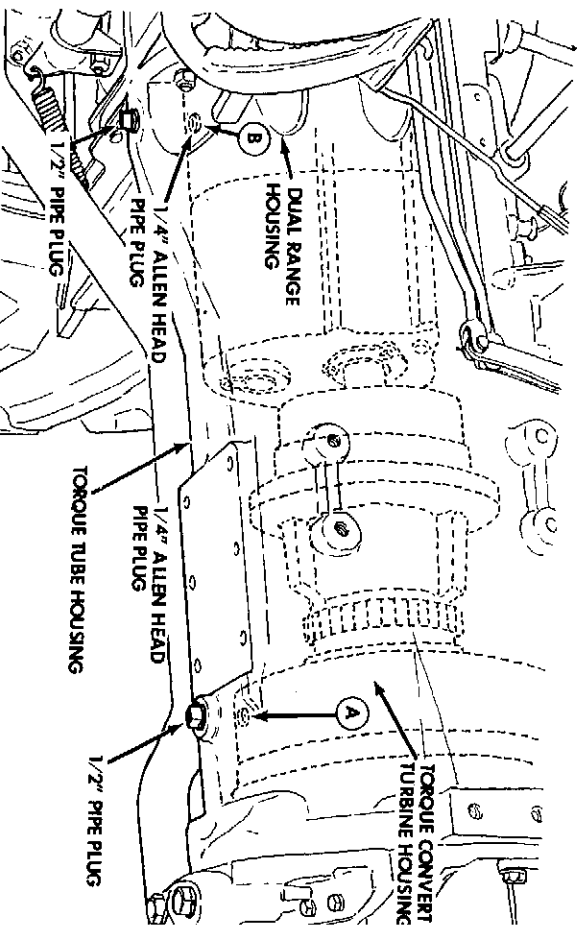

Figure 16
To drain the torque tube and converter unit remove the two 1/2" pipe plugs, see Figure 16 and allow the oil to drain for several minutes. Then use a 3/16" Allen wrench to remove 1/4" plug (A) from the converter turbine housing and the 1/4" plug (B) from the dual range housing. (Be extremely careful not to drop either of these plugs off the end of the Allen wrench when extracting them from the holes in the bottom of the torque tube.) It will be necessary to have an assistant turn the engine over slowly while you observe the lining up of the drain plug (A) with the drain hole in the torque converter housing.